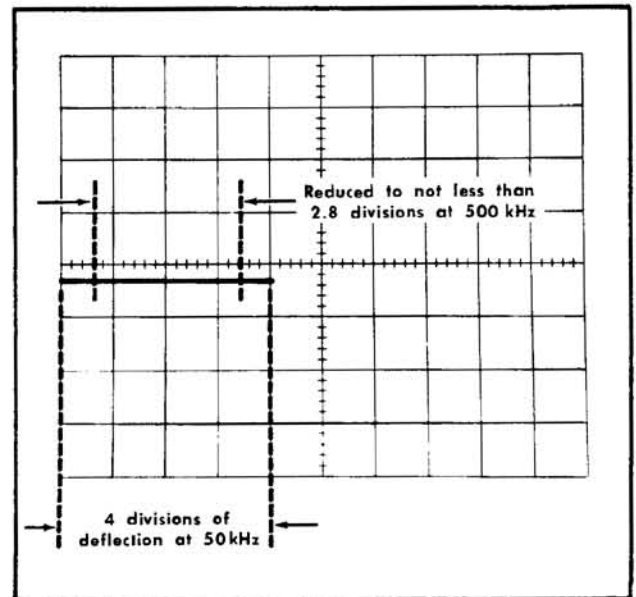

Fig. 5-19. Typical CRT display when checking external horizontal frequency response.
- Without changing the output amplitude, increase the output frequency of the constant-amplitude generator until the display is reduced to 2.8 divisions (—3 dB point; see Fig. 5-19).